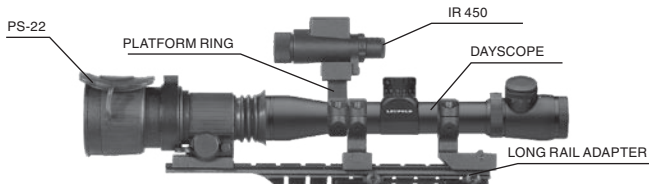
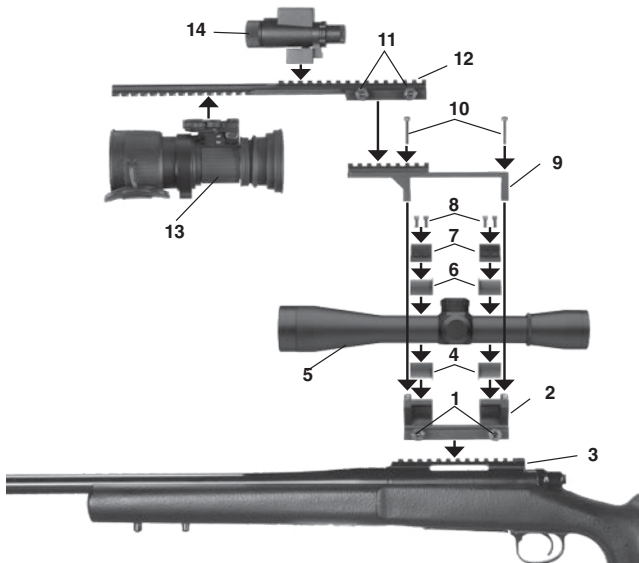

FIGURE 2-12. PLATFORM RING MOUNTED ON DAYSCOPE
FIGURE 2-13. INSTALLATION OF B.A.M. SYSTEM
Optional long rail adapter is used if the fire arm has short rail so that no place for installing the PS-22 forward of dayscope (Figure 2-12).
2. Install the IR450 onto the Picatinny rail (Figure 2-5), BAM System (Figure 2-13) or Platform Ring (Figure 2-12).